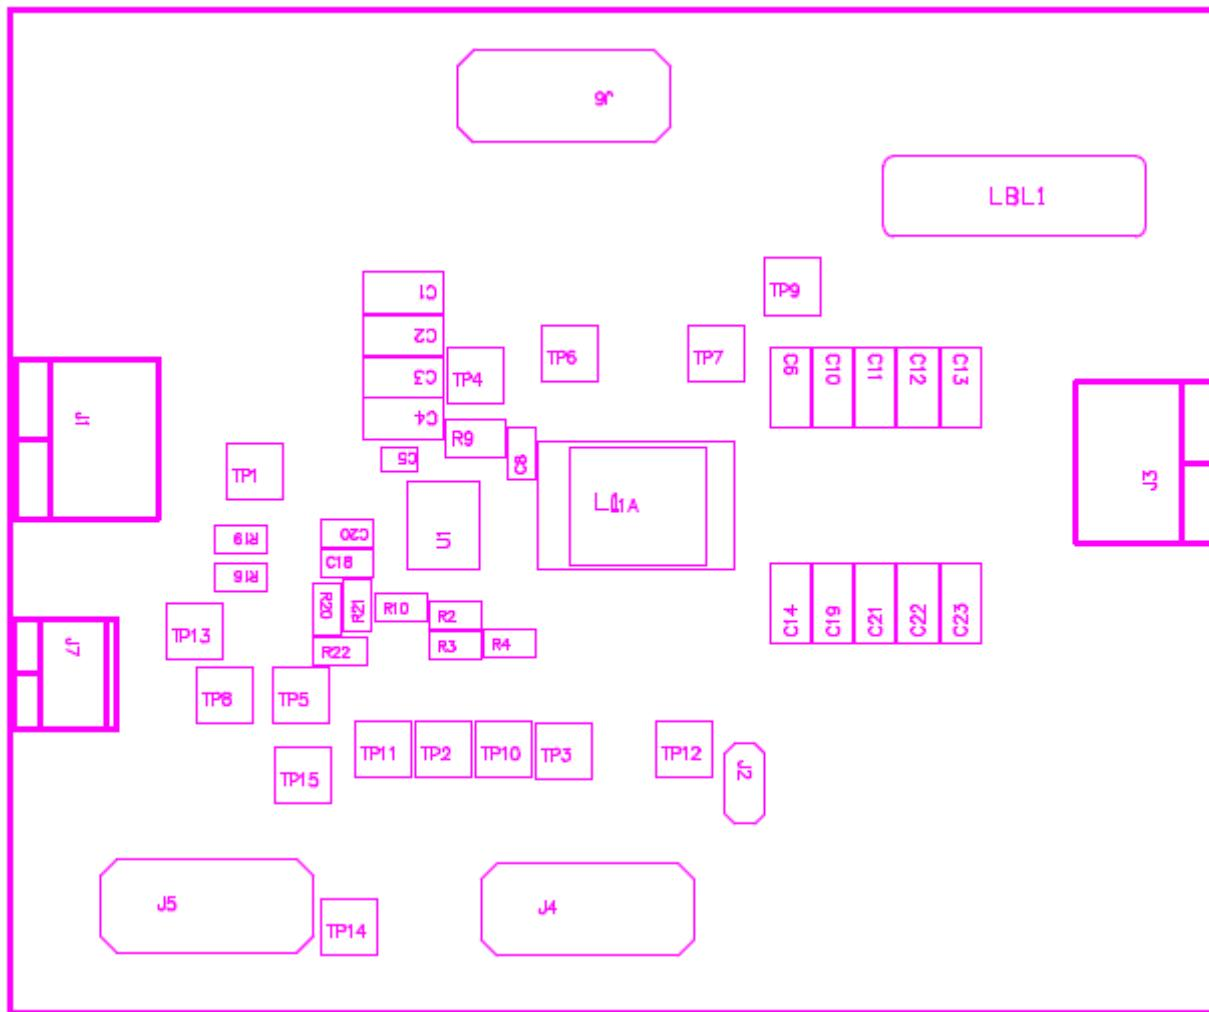

Figure 5-2. TPS548A20EVM-587 Top Layer for Test Setup
- Voltage Source** The input voltage source VIN must be a 0 to 14-V variable-DC source capable of supplying 10 ADC. Connect VIN to J1 as shown in Figure 5-2.
1. Prior to connecting the DC input-source, VIN, TI recommends to limit the source current from VIN to 10 A maximum. Ensure that VIN is initially set to 0 V and connected as shown in Figure 5-2.
1. Set up the EVM as described in Section 5 and Figure 5-2.